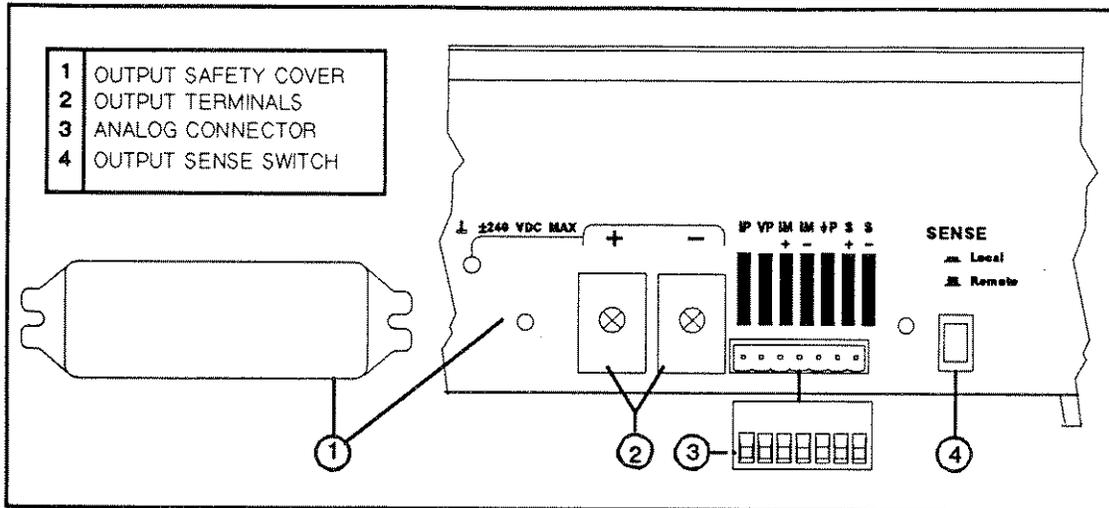
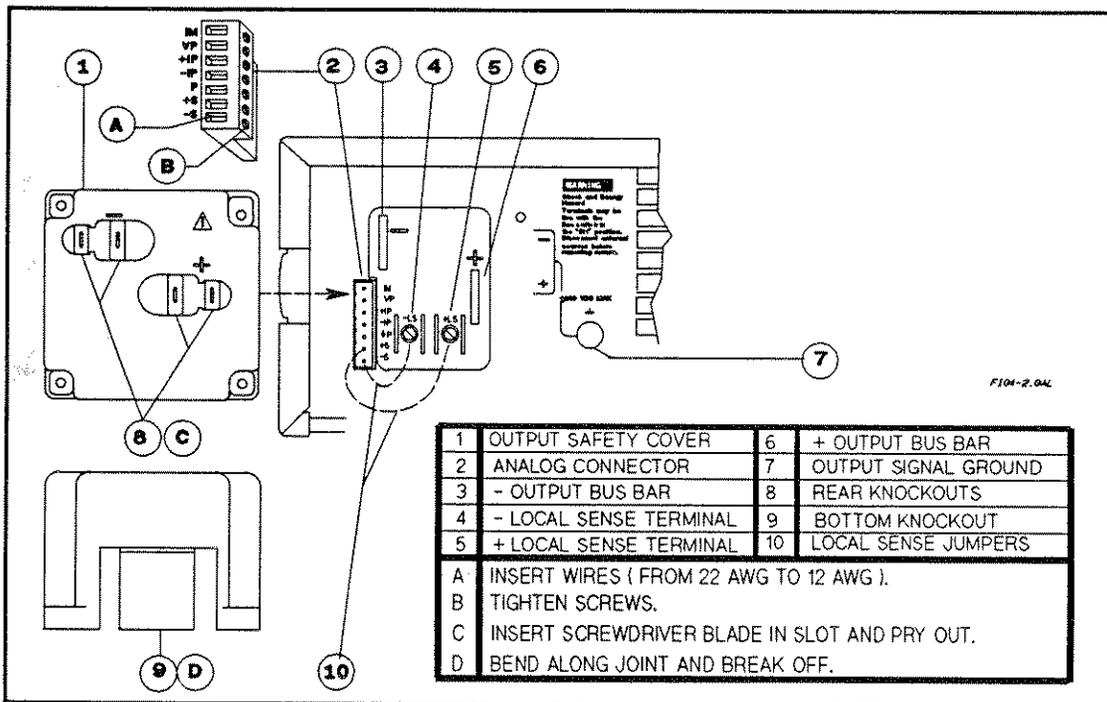

Figure 4-1. Series 654xA and 655xA Rear Panel Connections
Figure 4-2. Series 657xA Rear Panel Connections
The + and - load connections are made at the rear panel. Depending on the model (see Figure 4-1 or Figure 4-2), either terminals or screw-down bus bars (+ and -) connect the load to the power supply. The general procedure is as follows:
- make a suitable opening in the output safety cover by removing one or more cover knockouts (see Figure 4-2)
Local sensing is obtained by placing the **SENSE** switch (see Figure 4-1) in the **Local** position. The power supply is shipped with the switch in this position.
Remote sensing is obtained by placing the **SENSE** switch (see Figure 4-1) in the **Remote** position. The power supply is shipped with the switch in the **Local** position.